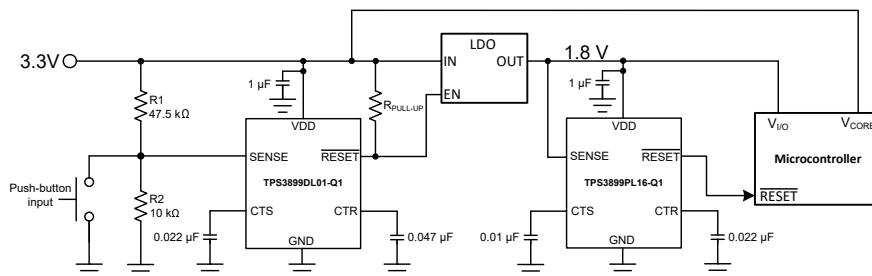

图 9-1. TPS3899-Q1 Voltage Rail Monitor and Power-Up Sequencer Design Block Diagram
A typical application for the TPS3899-Q1 is voltage rail monitoring and power-up sequencing as shown in Figure 9-1. The TPS3899-Q1 can be used to monitor any rail above 0.8 V. In this design application, two TPS3899-Q1 devices monitor two separate voltage rails and sequences the rails upon power-up. The TPS3899DL01-Q1 is used to monitor the 3.3 V main power rail and the TPS3899PL16-Q1 is used to monitor the 1.8 V rail provided by the LDO for other system peripherals. The $\overline{\text{RESET}}$ output of the TPS3899DL01-Q1 is connected to the enable (EN) input of the LDO with an external pull-up resistor $R_{\text{PULL-UP}}$ to the 3.3 V power rail. The $\overline{\text{RESET}}$ output of the TPS3899PL16-Q1 is connected to the $\overline{\text{RESET}}$ input of the microcontroller. A reset event is initiated on either voltage supervisor when the VDD voltage is less than $V_{\text{IT-}}$, falling threshold voltage. For a system reset event, a push-button input is placed at the SENSE pin of the TPS3899DL01-Q1.